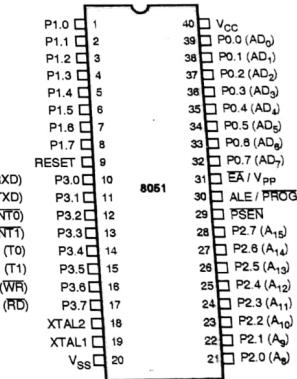

Fig. 2.4.1 : Pin diagram of 8051
- The pin diagram of 8051 is shown in Fig. 2.4.1. It is available in a standard 40 pin dual in line package.